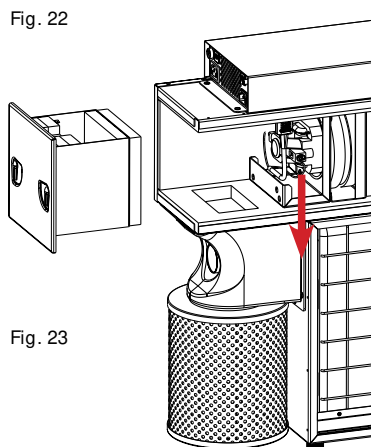

Fig. 23
- 3 now you can disconnect the motor plug on the right-hand side in the appliance (fig. 23).